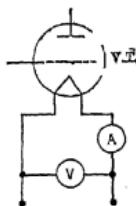

FIG. 15. Measuring the resistance of a vacuum-tube filament.
Prob. 40-1. In Fig. 15 the voltmeter (V) indicates 5 volts and the ammeter (A) 0.25 ampere. What is the resistance of the filament of the vacuum tube?